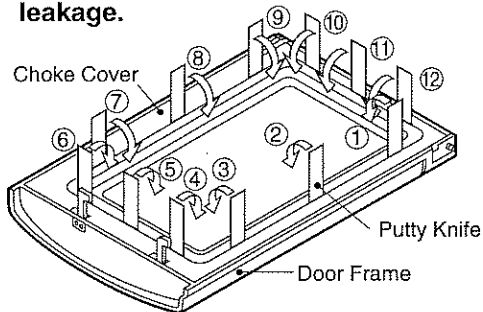

Figure C-8. Door Disassembly
3. Insert a putty knife (thickness of about 0.5mm) into the gap between the choke cover and corner portion of door panel as shown in Figure C-8 to free engaging parts.
4. Pry the choke cover by inserting a putty knife in order shown in figure C-8.